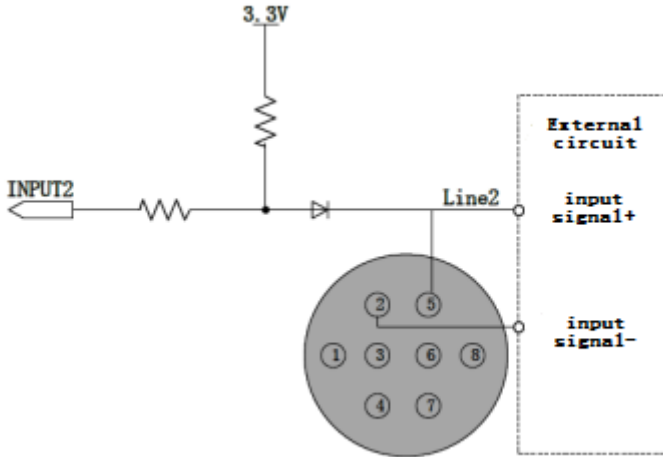

Figure 3-6 The camera's internal equivalent circuit when Line2 is configured as an input pin
- When the Line2/3 is configured as an input pin, the camera's internal equivalent circuit is shown in Figure 3-6 and Line2 is used as an example: